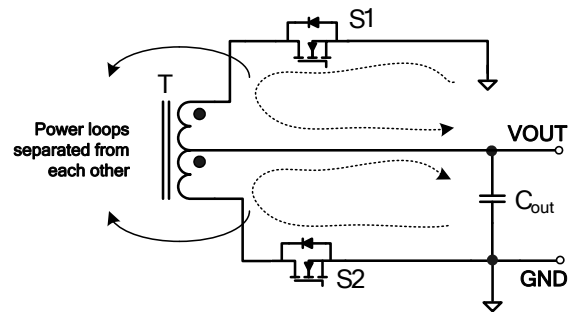

Figure 10: System Power Loop
1. Place a decoupling capacitor no smaller than $1\mu\text{F}$ from V_{DD} to PGND close to the IC for adequate filtering (see Figure 10).
1. Keep the two channels' power loops separated from each other (see Figure 10). *This minimizes the interaction between the two channels' power loops, which may affect the voltage sensing of the IC.*